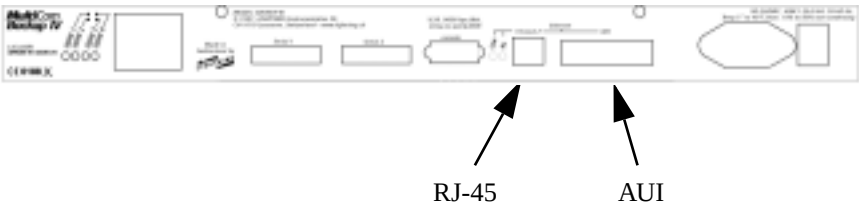

Figure 4 Ethernet connectors
2. Plug a Thin Ethernet AUI adaptor into the AUI connector (as shown in Figure 4) of your **MultiCom**.
3. Plug the other end into the RJ-45 socket of your **MultiCom Series IV**, as shown in Figure 4.